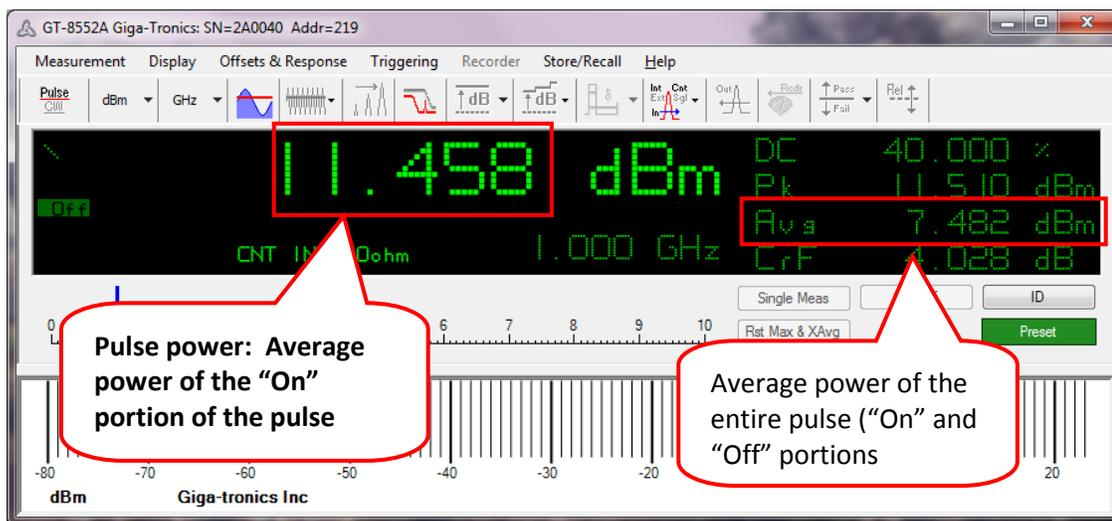

Figure 13. Sensor Window with Pulse Parameters
5.	<p>Figure 13 shows the Power Meter application window with the pulse measurements displayed:</p> <ul style="list-style-type: none"> Main display: Pulse power Side display: Duty Cycle (DC), Peak (Pk) power, Average (Avg) power, Crest Factor (CrF).